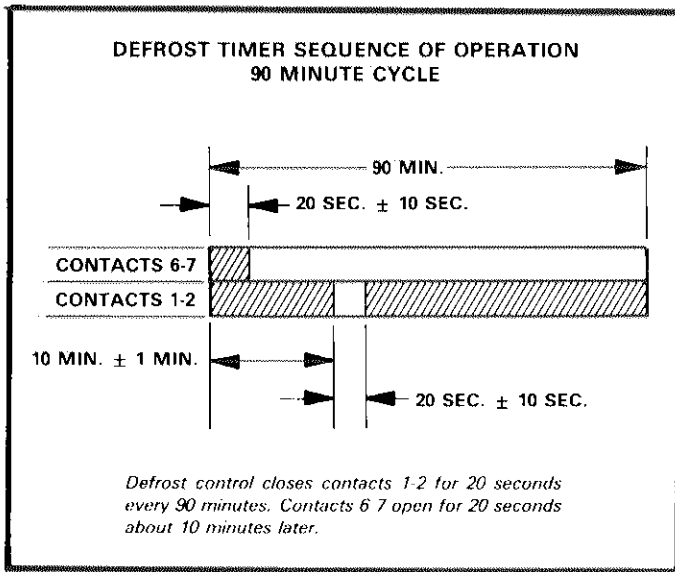

FIGURE 4
The defrost timer can be field adjusted from a 90 minute to a 30 minute defrost interval if warranted by climatic conditions. See Figure 4 for defrost timer sequence of operation.
Figure 4 is the switch timing sequence chart for the defrost timer. Control functions of the timer are explained in the sequence of operation section of this manual.
- 10 - Unit will follow the same sequence of operation shown in figure 4 except defrost interval will be every 30 minutes.